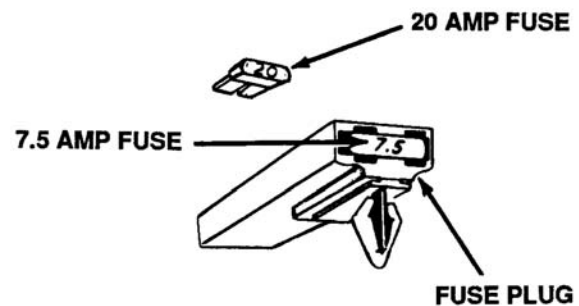

Figure 3-7. Fuse Holder
- 3-2.3 **600, 700 and 800 Series Only.** The circuit breaker is being replaced by a standard automotive type fuse. Nonregulated electrical systems will use a 7-1/2 amp fuse. On regulated electrical systems, a 20 amp fuse will be used. This will not retrofit prior production units. See Figure 3-7.